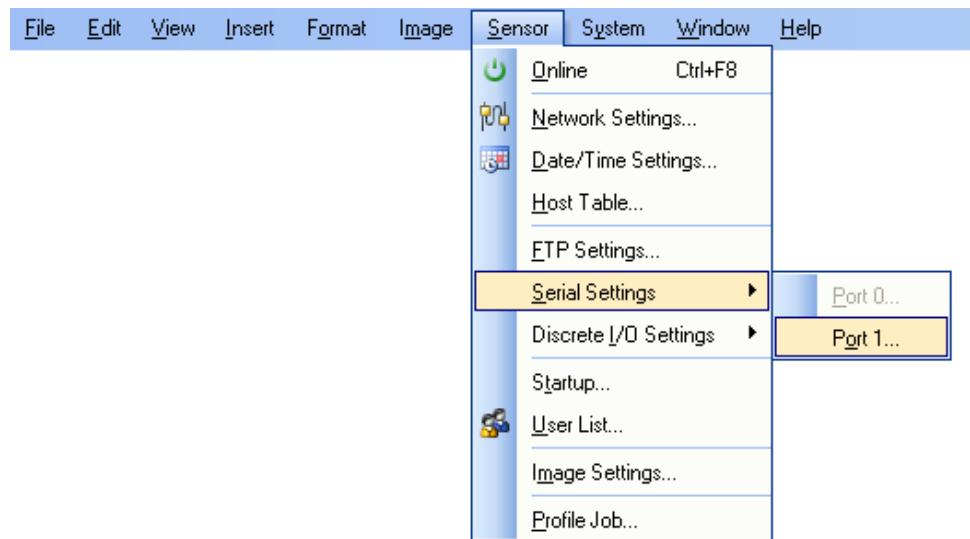

Figure B-3: Accessing the Serial Port Settings
3. From the Sensor menu (Figure B-3), select the Serial Settings submenu. Select Port 1.